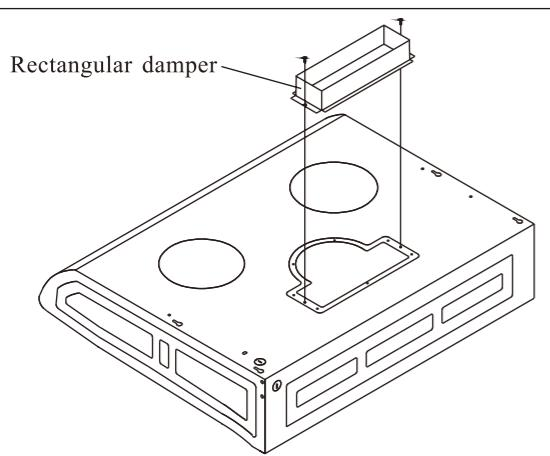

Fig.4 Place and screw the rectangular damper
- Place and screw the rectangular damper with 5/16" L X 5/32" Dia. Screws. (Fig4)